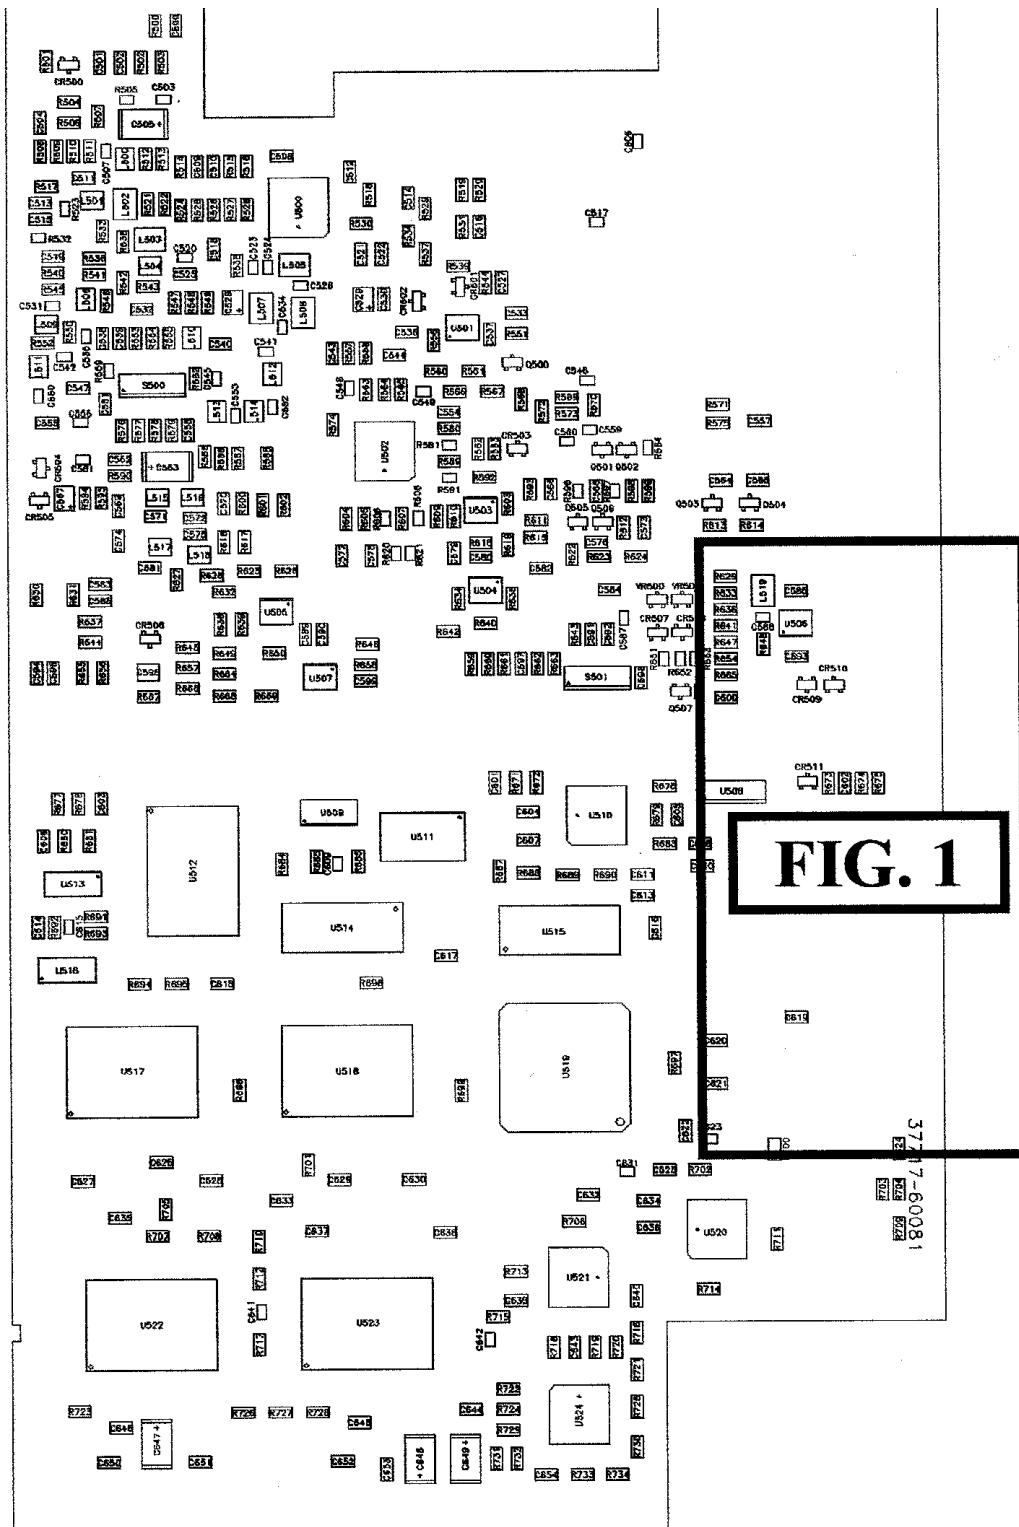

Figure 1. Location of Components.
5. Add a wire link from vacant end of Ra to U506 pin 1 using insulated wire (see Figures 1 and 2).
6. Add a wire link from vacant end of Rb to U506 pin 7 using insulated wire (see Figures 1 and 2).